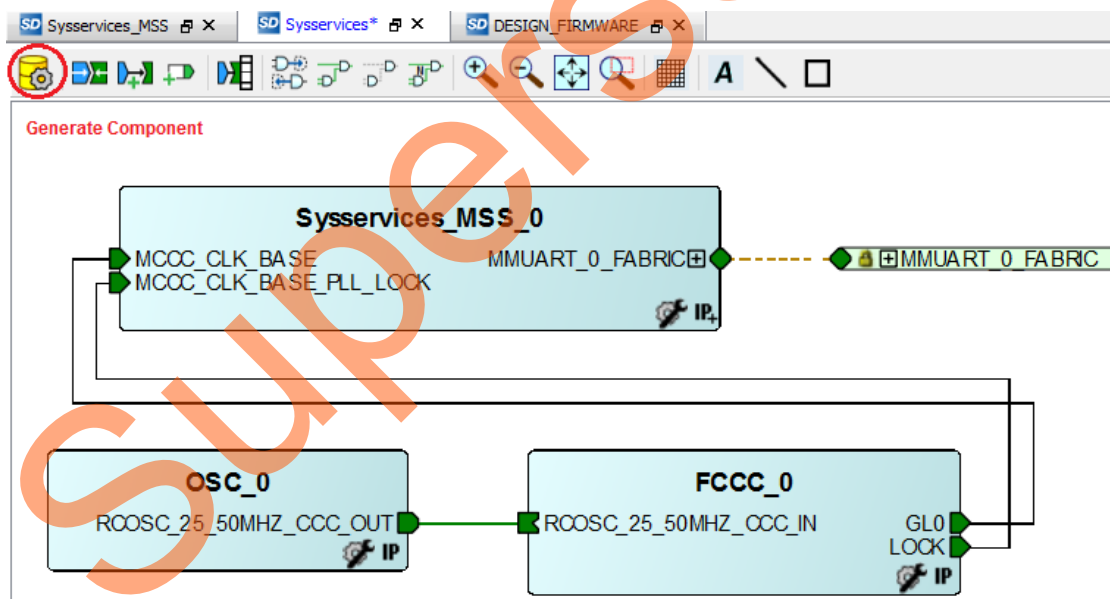

Figure 23 • Generate Component
3. Select **Sysservices** tab on the SmartDesign canvas and click **Generate Component** as shown in Figure 23.